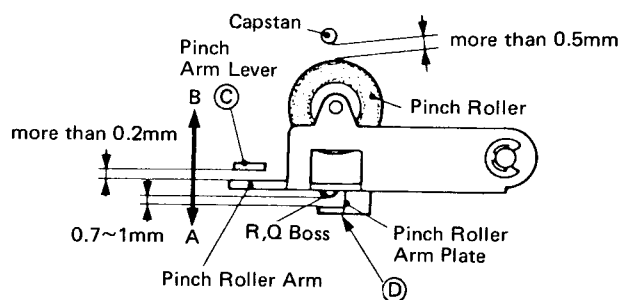

Fig. 19
- If the tape is projected from the cassette half at the beginning of cue action, adjust it by bending the part (C) of pinch arm lever to the A direction as shown in Fig. 19.
- If the tape is fast forwarded at the beginning of cue action, bend the part (C) to the B direction as shown in Fig. 19.
- If the tape is projected from the cassette half at the beginning of review action, bend the part (C) to the A direction as shown in Fig. 19.
- If the tape is fast forwarded at the beginning of review action, bend the part (C) to the B direction as shown in Fig. 19.
2. After adjustment check that the gap between the RQ boss and the pinch roller arm plate is within 0.7 to 1mm. If it is beyond the limits, adjust it by bending the part (D) of pinch roller arm plate as shown in Fig. 19.